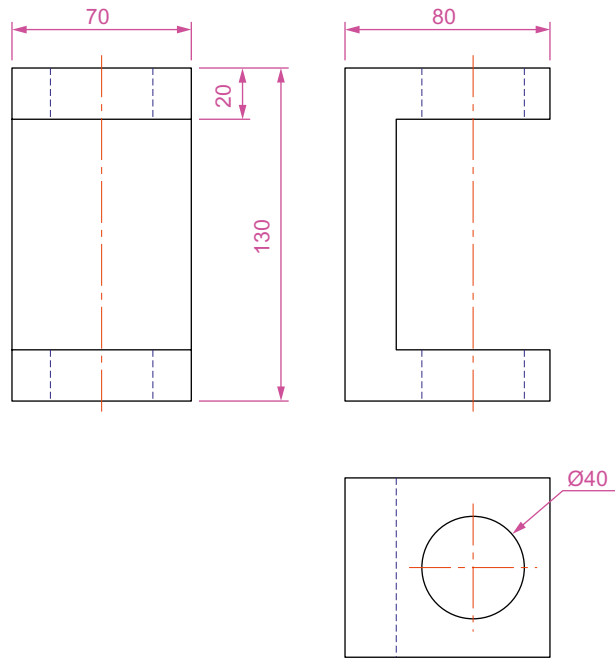

Fig. 7.20 First example – isometric drawing – the model
1. This example is to construct an isometric drawing to the details given in the orthographic projection (Fig. 7.20). Set Snap on (press the **F9** function key) and Grid on (**F7**).